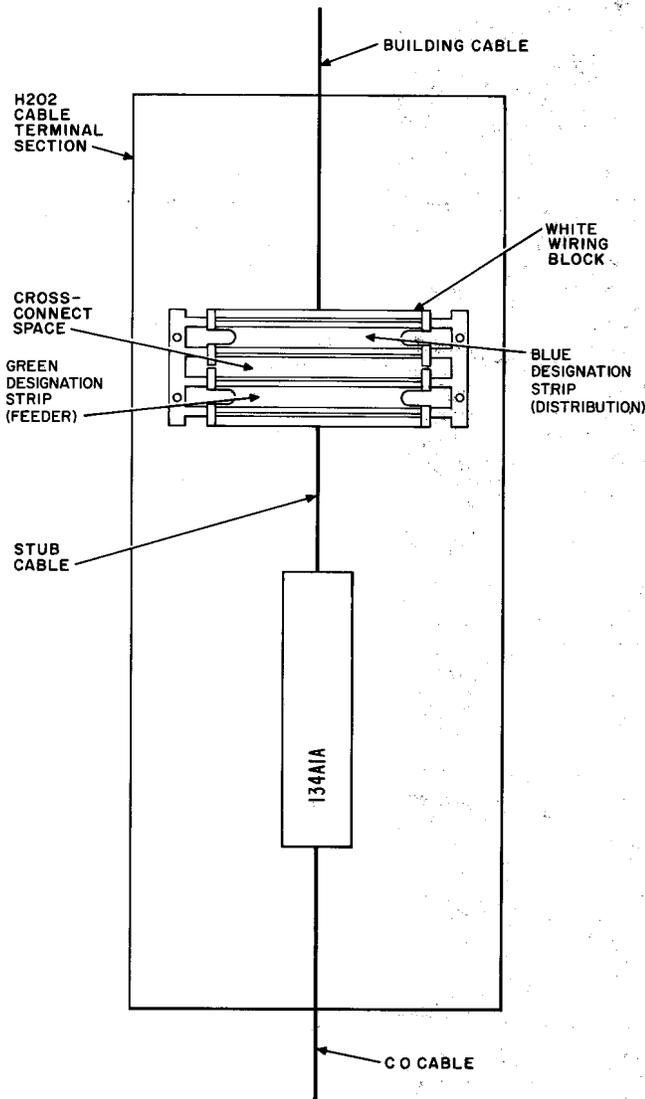

Fig. 8—Entrance Cable and Building Cable Terminating on One Wiring Block
2.04 When a small terminal has been installed, both the entrance cable and building cable may be terminated on the same wiring block, as illustrated in Fig. 8. Care must be taken to properly identify the feeder and building cable pairs by using the appropriate designation strip (see Section 631-050-120).